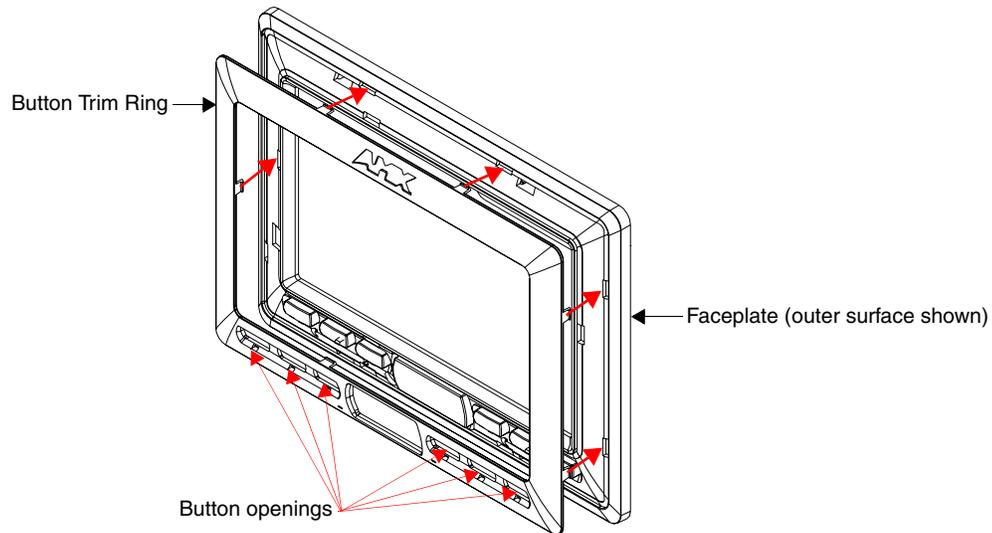

FIG. 33 Inserting the Button Trim Ring
8. Gently insert the Button Trim Ring latches into their corresponding openings on the outer surface of the internal Faceplate (FIG. 33).